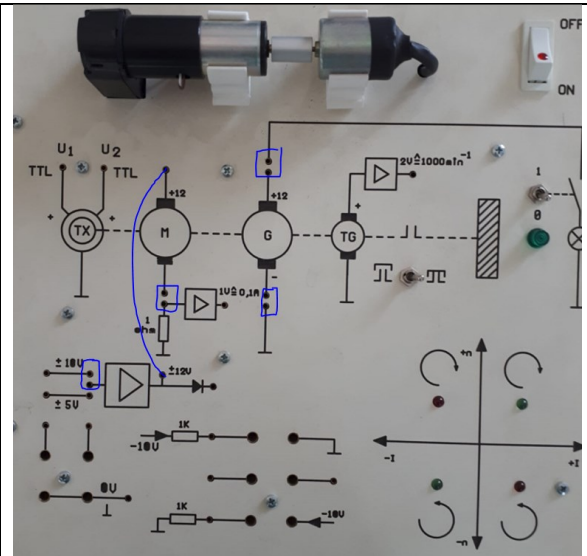

Figure 4: jumper-cable connection
- 4) Using the jumper-wires set the connection as given in Figure 4.